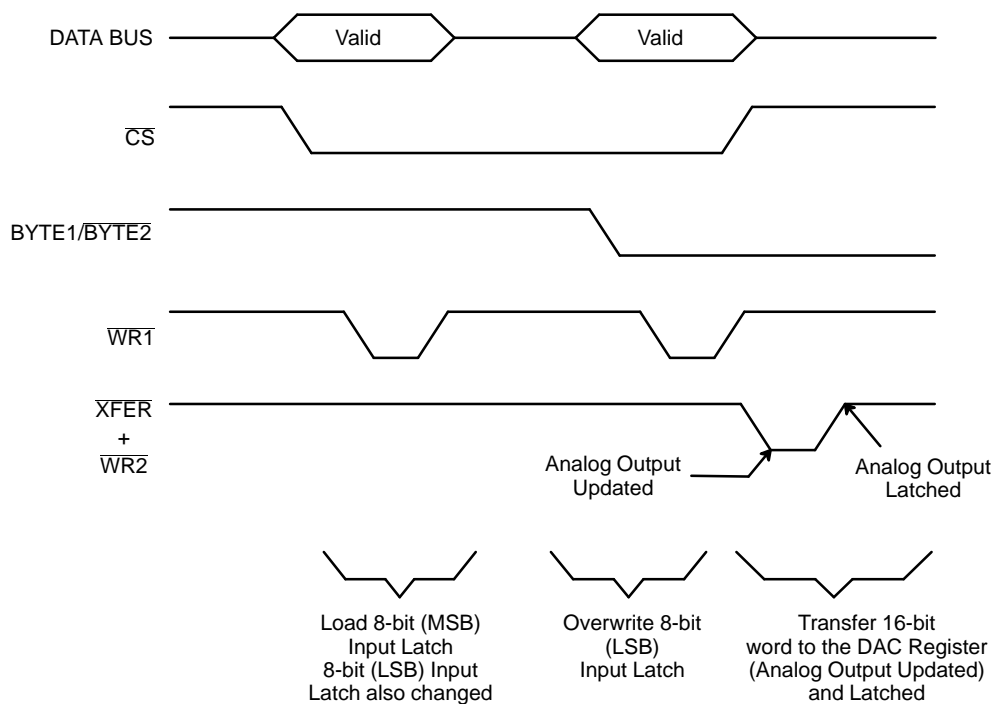

Figure 1. Typical Interface with an 8-bit Data Bus
- The timing diagrams for updating the DAC register are shown in *Figures 1 and 2*.